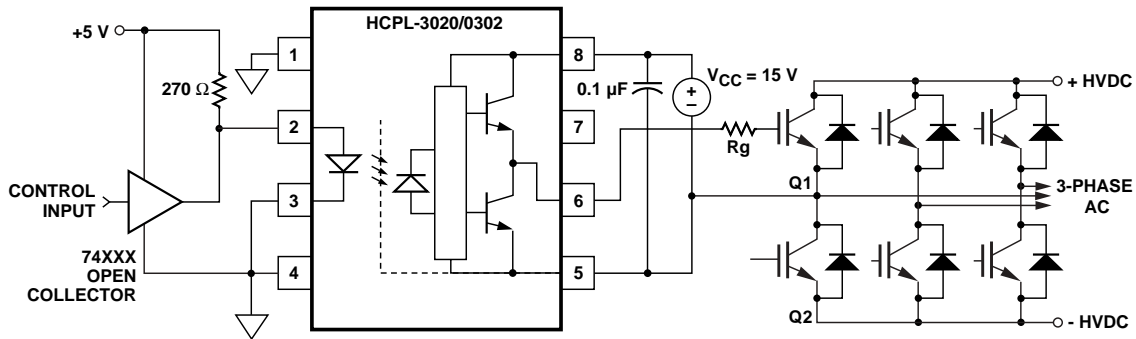
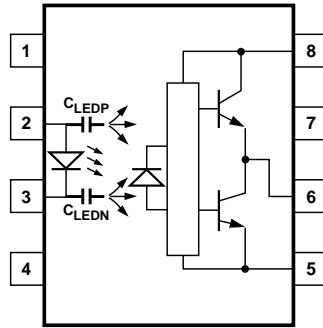
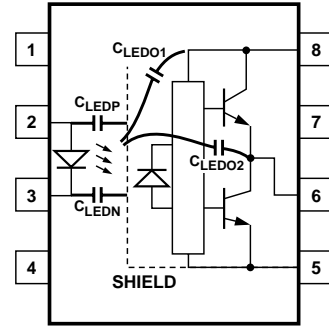
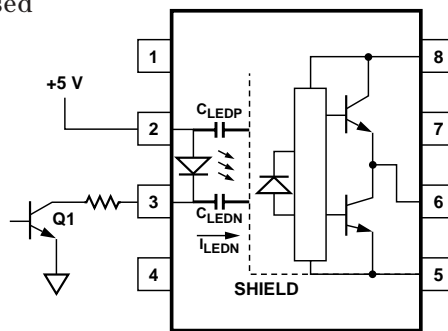

Figure 17. Recommended LED drive and application circuit for HCPL-3020 and HCPL-0302.
Figure 19. Optocoupler input to output capacitance model for unshielded optocouplers.
Figure 20. Optocoupler Input to output capacitance model for shielded optocouplers.
Figure 22. Not recommended open collector drive circuit.
a small PC board directly above the IGBT) can eliminate the need for negative IGBT gate drive in many applications as shown in Figure 17. Care should be taken with such a PC board design to avoid routing the IGBT collector or emitter traces close to the HCPL-3020 or HCPL-0302 input as this can result in unwanted
Step 1: Calculate R_g minimum from the I_{OL} peak specification. The IGBT and R_g in Figure 17 can be analyzed as a simple RC circuit with a voltage supplied by the HCPL-3020.
K_{ICC} · Q_g · f is the increase in I_{CC} due to switching and K_{ICC} is a constant of 0.001 mA/(nC·kHz). For the circuit in Figure 17 with I_F (worst case) = 10 mA, R_g = 57.5 Ω, Max Duty Cycle = 80%, Q_g = 100 nC, f = 20 kHz and T_{AMAX} = 85°C:
Without a detector shield, the dominant cause of optocoupler CMR failure is capacitive coupling from the input side of the optocoupler, through the package, to the detector IC as shown in Figure 19. The HCPL-3020 and HCPL-0302 improve CMR performance by using a detector IC with an optically transparent Faraday shield, which diverts the capacitively coupled current away from the sensitive IC circuitry. However, this shield does not eliminate the capacitive coupling between the LED and optocoupler pins 5-8 as shown in Figure 20. This capacitive coupling causes perturbations in the LED current during common mode transients and becomes the major source of CMR failures for a shielded optocoupler. The main design objective of a high CMR LED drive circuit becomes keeping the LED in the proper state (on or off) during common mode transients. For example, the recommended application circuit (Figure 17), can achieve $10 \text{ kV}/\mu\text{s}$ CMR while minimizing component complexity.
The open collector drive circuit, shown in Figure 22, cannot keep the LED off during a $+dV_{CM}/dt$ transient, since all the current flowing through C_{LEDN} must be supplied by the LED, and it is not recommended for applications requiring ultra high CMR_1 performance. The alternative drive circuit, which likes the recommended application circuit (Figure 17), does achieve ultra high CMR performance by shunting the LED in the off state.